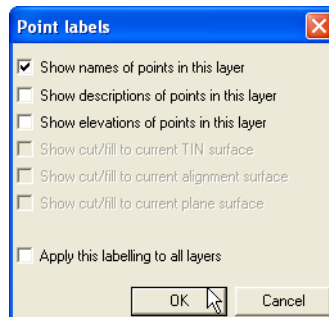

Figure 3-14. Select Point Labeling Parameters for Layer
2. Enable the desired point labeling parameters for the layer (or for all layers) and click **OK** (Figure 3-14).